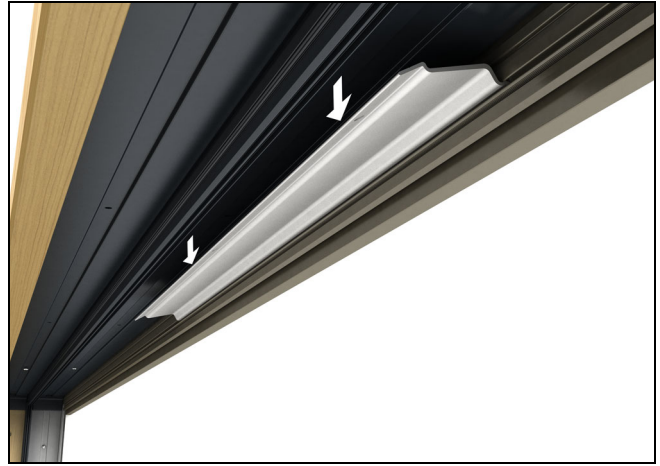

Figure 121
6. Remove the structural brackets from head jamb by removing the tape and rotating outwards. See figure 121.